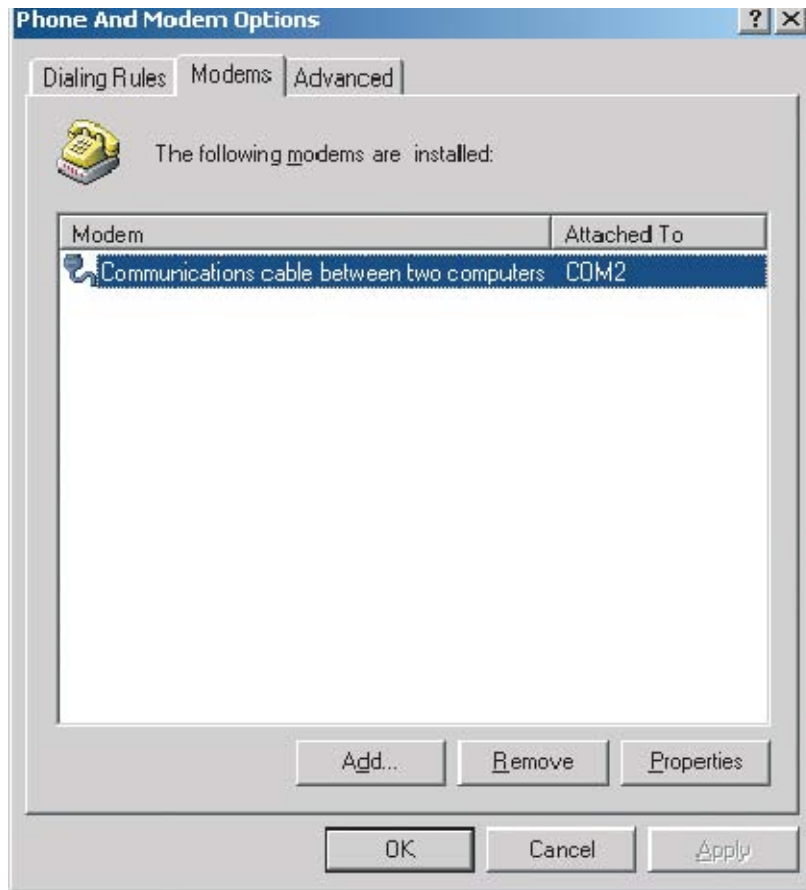

Figure 137: Control Panel - Phone and Modem Options - Modems tab
1. Open Control Panel > Phone and Modem Options. Click the Modems tab, if not selected. See Figure 137: Control Panel - Phone and Modem Options - Modems tab on page 208.